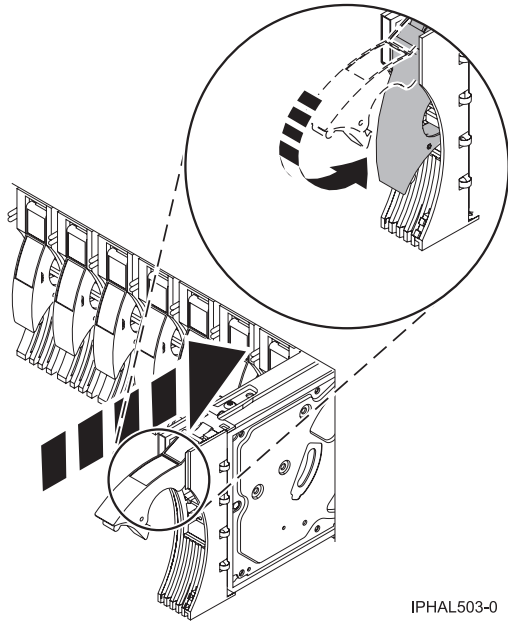

Figure 13. Installing a disk drive in a model
15. Slide the disk drive into the system unit until it stops, as shown in Figure 13.